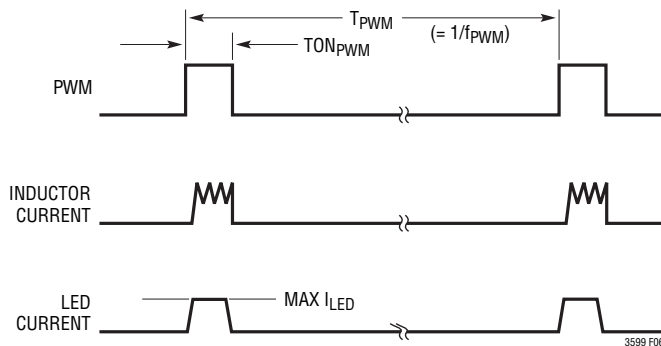

Figure 6. LED Current Using PWM Dimming
0.033% at a PWM frequency of 100Hz (Figure 6). Dimming by PWM duty cycle, allows for constant LED color to be maintained over the entire dimming range.